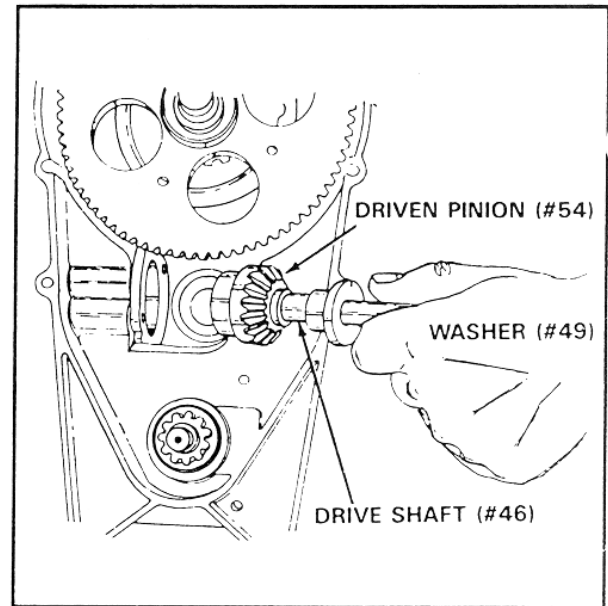

FIGURE 17
8.02 Take drive shaft (#46) and press splined end into bearing until driven pinion (#54) is seated against bearing. See figure 17.